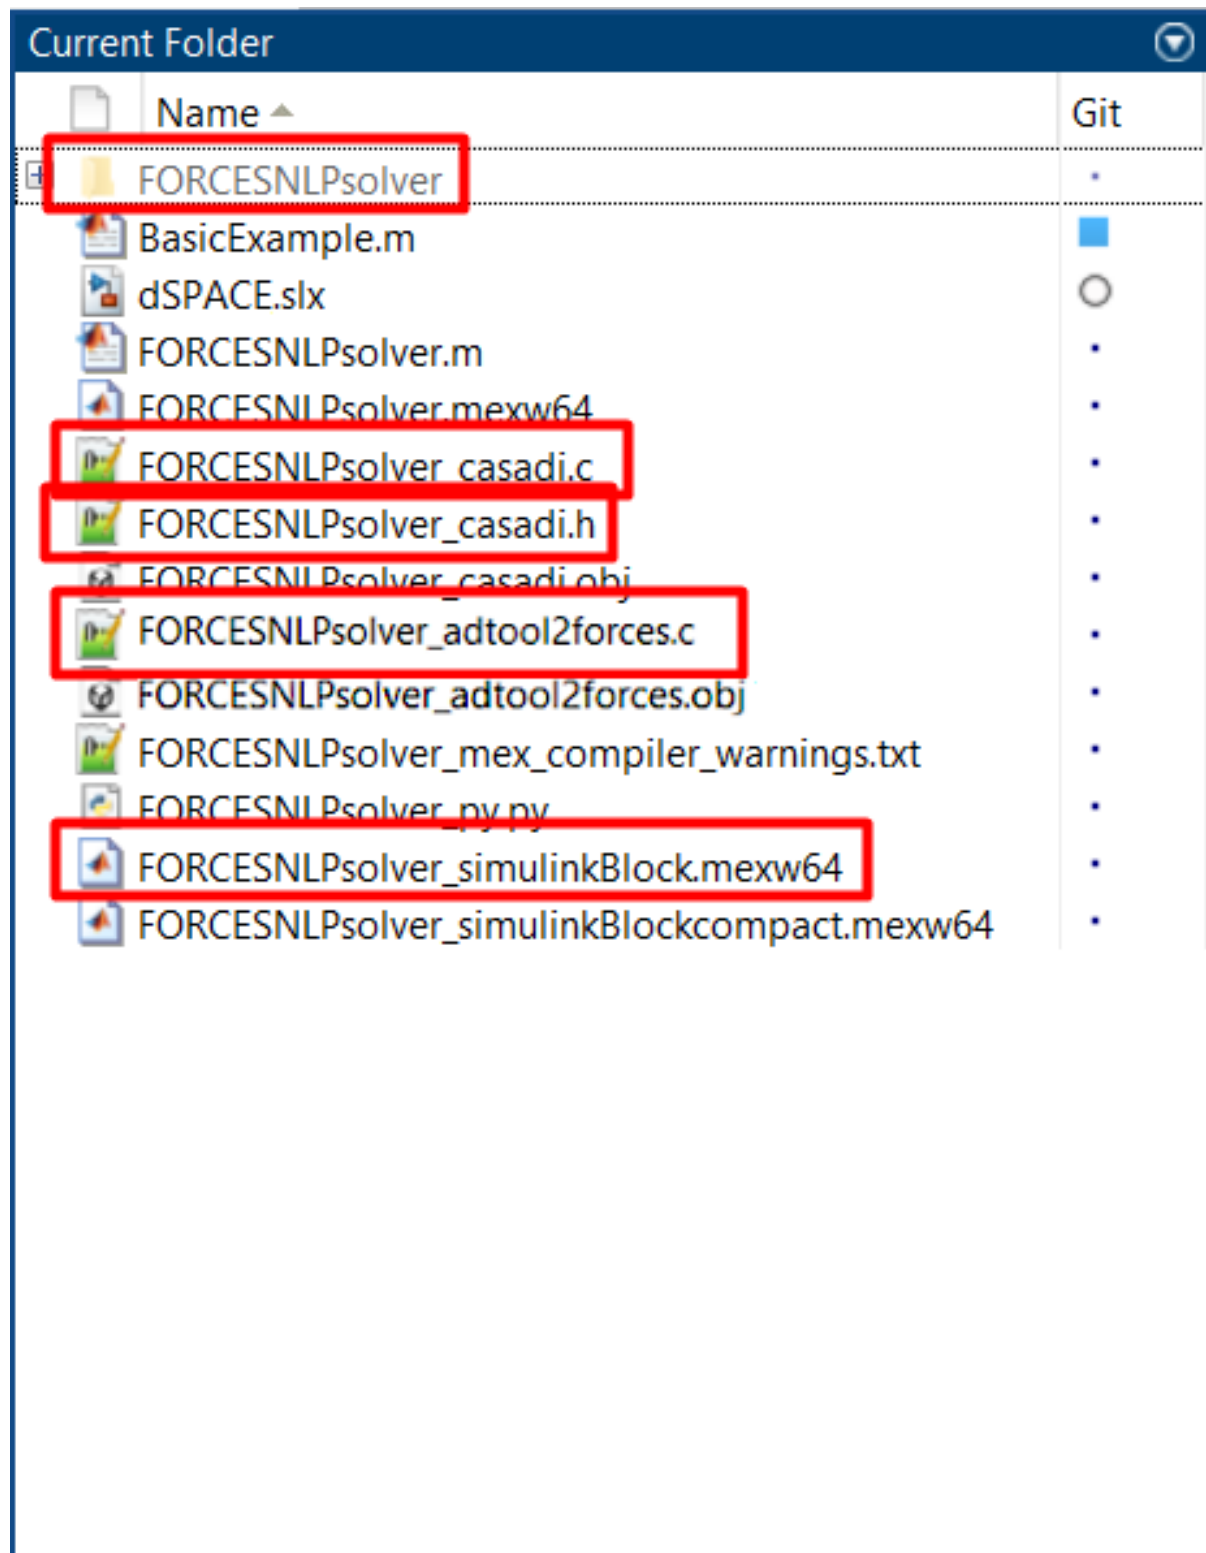

Figure 13.4: Add the folder containing the .mexw64 solver file to the Matlab path.
4. (Figure 13.4) Make sure the `FORCESNLPsolver_simulinkBlock.mexw64` file (created during code generation) is on the Matlab path.